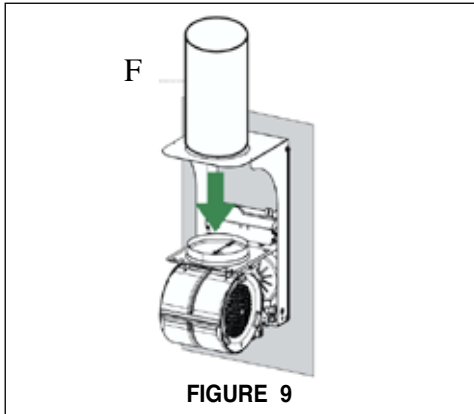

FIGURE 9
1. Install provided PVC pipe directly on top of the motor, and seal with tape. **F in FIGURE 9.**